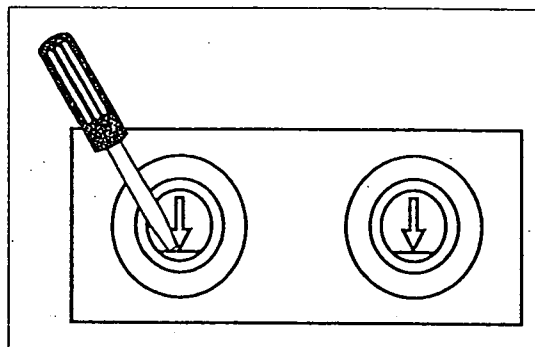

Fig. 5 Knockout cable entries
**2.3.1 Connection via terminal boxes****2.3.1.1 Preparation of motors size 63 - knockout (Fig. 5)**
- a chisel or similar (apply at an angle like Fig. 5),